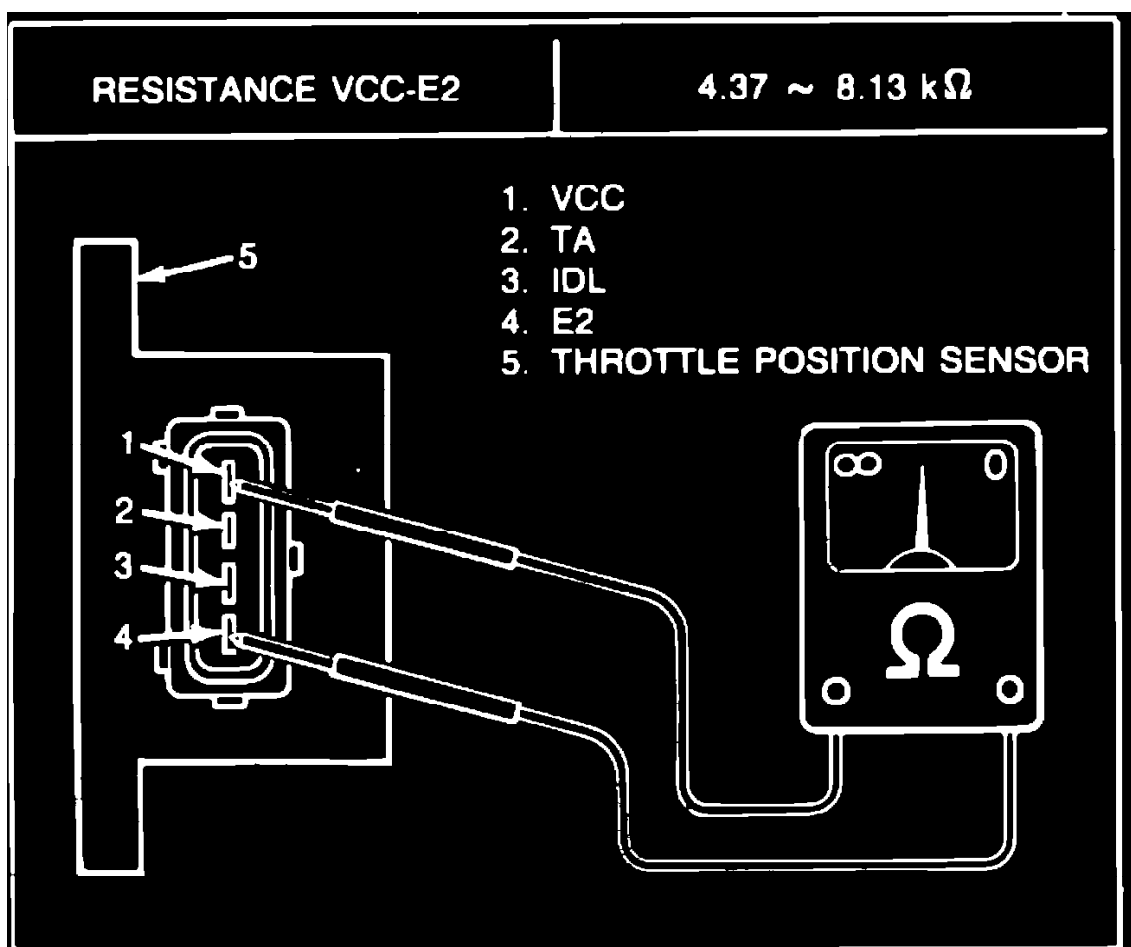

Fig. 12 Checking throttle position sensor (VCC-E2)
4. Check resistance of VCC-E2 as described, **Fig. 12.**